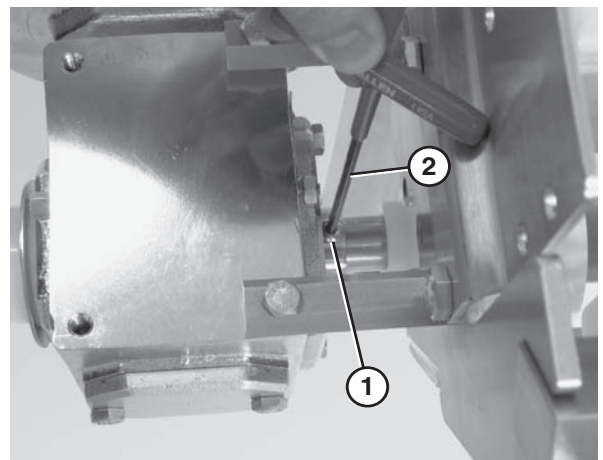

Figure 50
1. Loosen the fasteners (**Figure 50, item 1**) that connect the gearmotor to the drive spindle using a hex wrench (**Figure 50, item 2**).